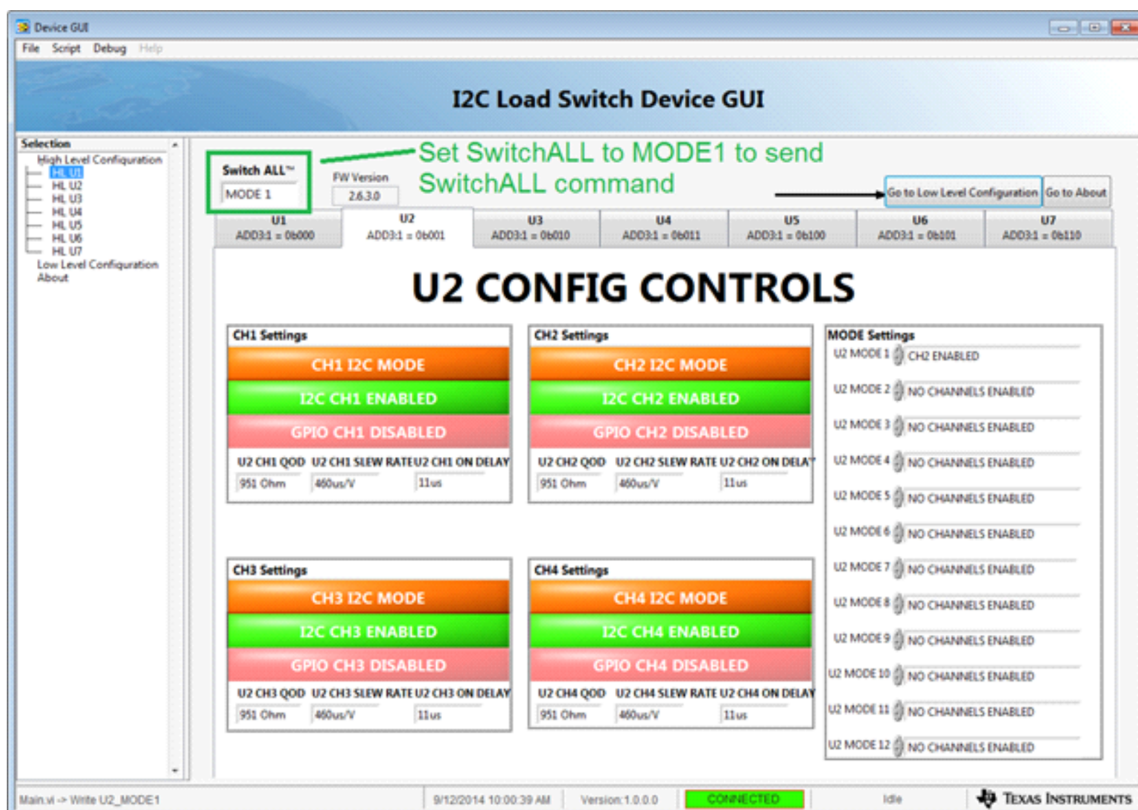

Figure 11. Set SwitchALL™ Control to MODE1 to Send SwitchALL™ Command
- (D) Once you set the SwitchAll™ control to MODE1 then SwitchAll™ command will be sent to both devices and each device will respond according to how you have configured the MODE1 register for that device, see Figure 11.